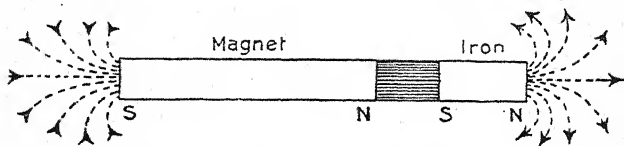

FIG. 21.
**Magnetic Induction.**—In Fig. 21, opposite the north pole of the bar magnet is a piece of soft iron. It will be seen that some of the lines of force enter the iron, and in doing so the iron becomes magnetised, that end nearest the north of magnet will, of course, exhibit south polarity.